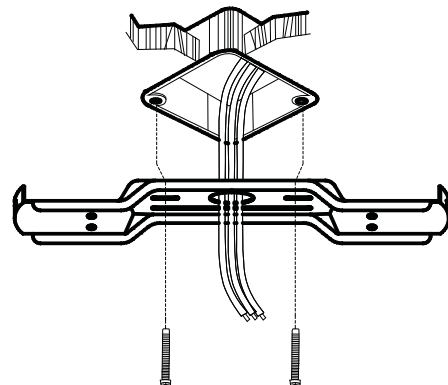

Fig. 3
Install the mounting plate to the electrical junction box in the ceiling (see figure 3) using two (2) machine screws,